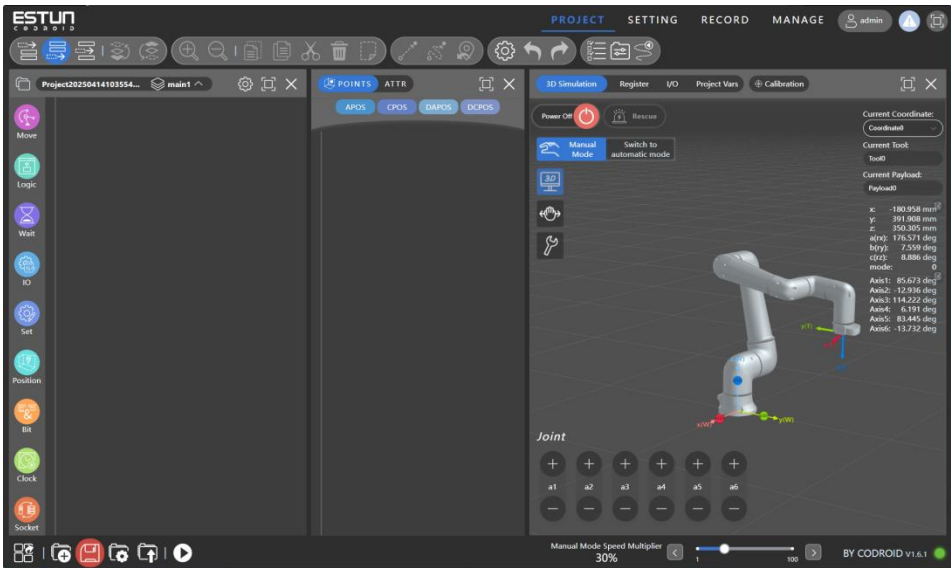

Figure 3-13 Main Interface
7. As shown in the main interface of Figure 3-13, it indicates that the robot has been powered on successfully. Now, you can control the robot to move.